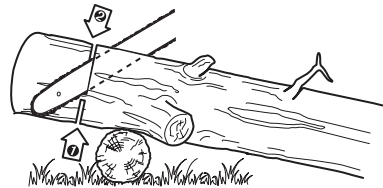

Fig. 40
2. When the log is supported on one end (Fig. 40), cut 1/3 the diameter from the underside (underbuck). Then make the finished cut by overbucking to meet the first cut.